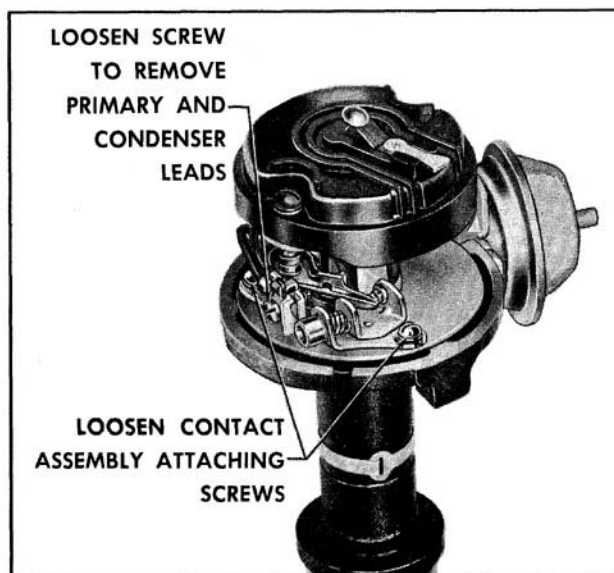

Fig. 13-69 Removing Contact Point Set
2. Loosen the two attaching screws which hold the base of contact set, turn and lift out the assembly. (Fig. 13-69)